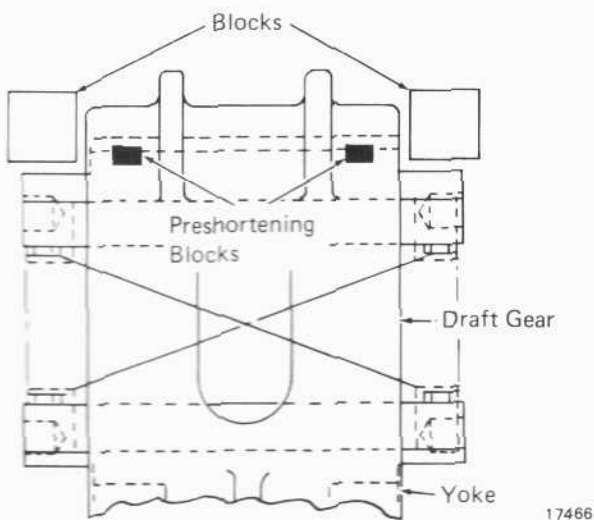

Fig.18 – Application Of Compression Blocks
6. With the gear properly placed in the yoke, and the yoke head down in the press, place two blocks on the gear rear follower on either side of the yoke butt, as shown in Fig. 18.